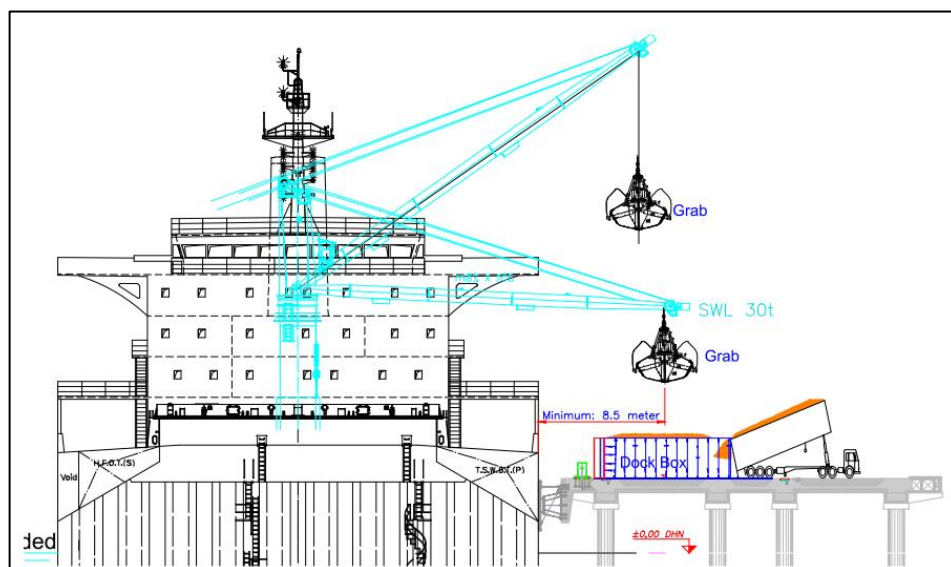

Figure 1 Transversal View of Vessel with on-board crane with its boom opened, 30 tons capacity.
8. All on-board cranes, if installed at the center of the vessel, must extend themselves beyond the ship's side at least 8.5 meters and guarantee a safe working load (SWL) of 30 at their maximum reach. (Figure 1).